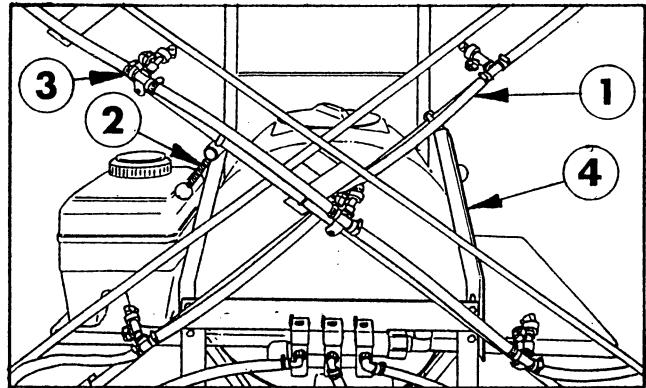

Fig. 10
1. Start with Left Boom (Boom 1). Swing Boom around to the center of the vehicle. Lift boom slightly and set on Boom Hold In Assembly. See FIG. 10.
3. With small jumper wire (or paper clip), short between 10 o'clock and 6 o'clock sockets with a "short - no short" motion. This should cause a speed reading to be displayed in the Console. Each time a contact is made, the DISTANCE total should increment up 1 or more counts. See FIG. 10.
1. Enter a METER CAL number of one (1) in key labelled:  for Chemical 1 cable;  for Chemical 2 cable.
4. With small jumper wire (or paper clip), short between 2 o'clock and 6 o'clock sockets with a "short - no short" motion. Each time a contact is made, the VOLUME total should increment up 1 or more counts. See FIG. 10.